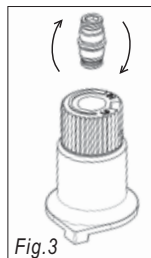

Fig.3
- 11) Flip the screw (Fig. 3).